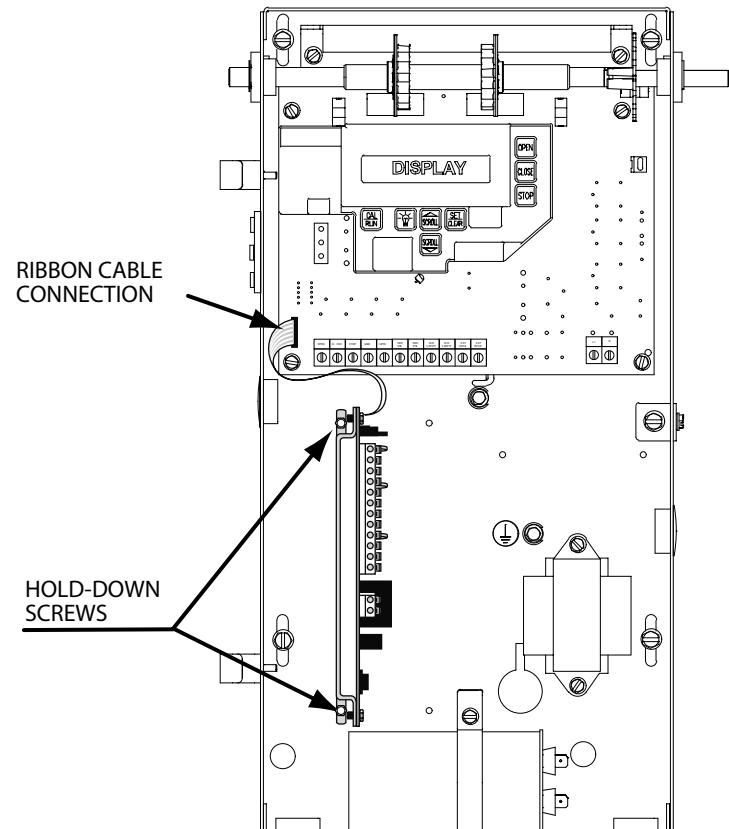

Fig. 3A Install AOM in MX Unit
3. Install Auxiliary Output Module. (Fig. 3A)
1. Remove four (4) self-tapping screws from front panel of GCX enclosure and remove front panel to expose control circuits.
4. Insert module into the area indicated and slide front mounting tab into slot on side panel of GCX enclosure. Fig. 3A & B